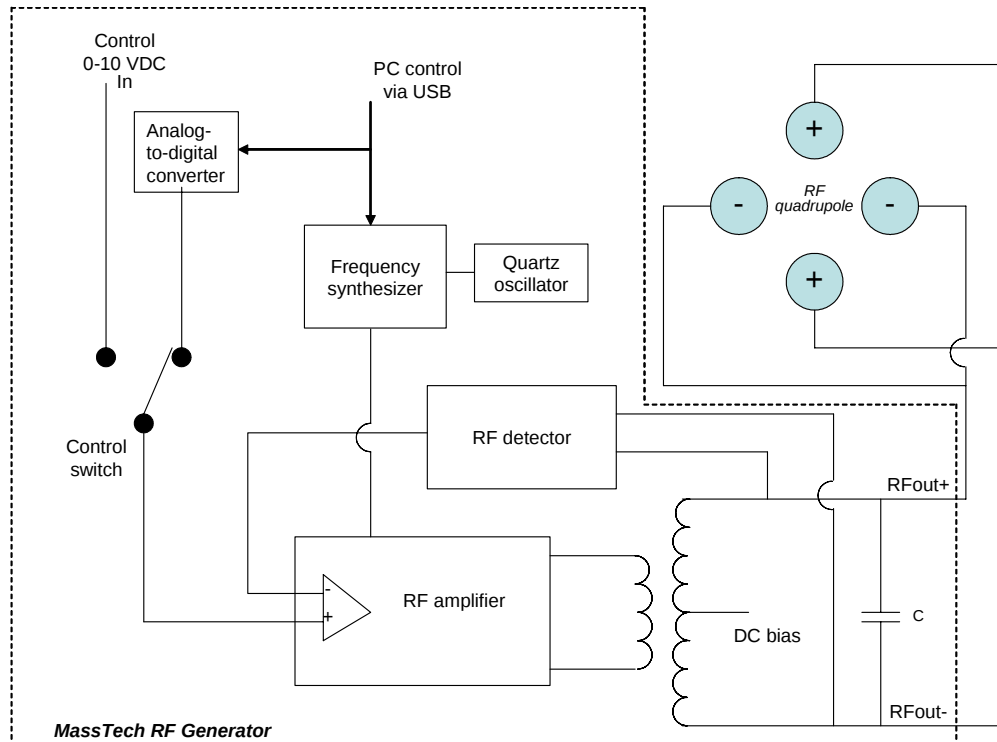

Fig. 2-1. Simplified schematic diagram of the MassTech RF Generator.
A simplified scheme of the RF Generator is presented in Fig. 2-1 below.
- **Installing/Uninstalling:** Before the RF Generator is installed, uninstalled, or replaced, make sure that the Power switch on the rear panel is in OFF position and the vent holes of the RF Generator housing are not blocked by external objects. Installation requires connecting the “RFout+” and “RFout-” connectors to a quadrupole/multipole load as shown in Figure 2-1 using proper high voltage cables (make sure that the cables are rated for at least 3 kV). The length of the RF cables should be as small as possible since they add their own capacitance to the load. The “DC bias” connector should be connected to a proper DC voltage source, not exceeding ± 200 VDC. If the Generator output RF voltage is intended to control using an external DC signal the source of the signal (from 0-10 VDC) should be connected to the “Control 0-10 V In” connector and the “Amplitude Control” switch on the rear panel should be in the “External” position. If the RF Generator output voltage is to be controlled via a computer the switch should be in the “USB” position. Connect the RF generator to the computer using the USB cable provided.
Installation requires connecting the “RFout+” and “RFout-” connectors to a quadrupole/multipole load as shown in Figure 2-1 using proper high voltage cables (make sure that the cables are rated for at least 3 kV). The length of the RF cables should be as small as possible since they add their own capacitance to the load.